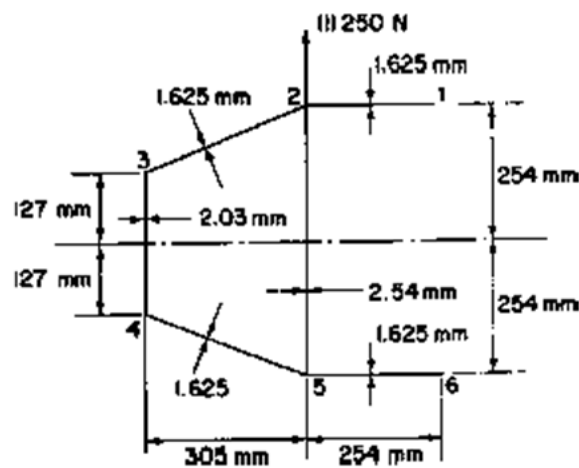

Figure 2
- (b) A thin-walled beam with the singly symmetrical cross-section shown in Figure 2 is built-in at one end where the shear force  $S_y = 111\ 250\text{N}$  is applied through the web 25. Assuming the cross-section remains undistorted by the loading, determine the shear flow and the position of the centre of twist at the built-in end. The shear modulus  $G$  is the same for all walls. [BL: Apply| CO: 5|Marks: 7]